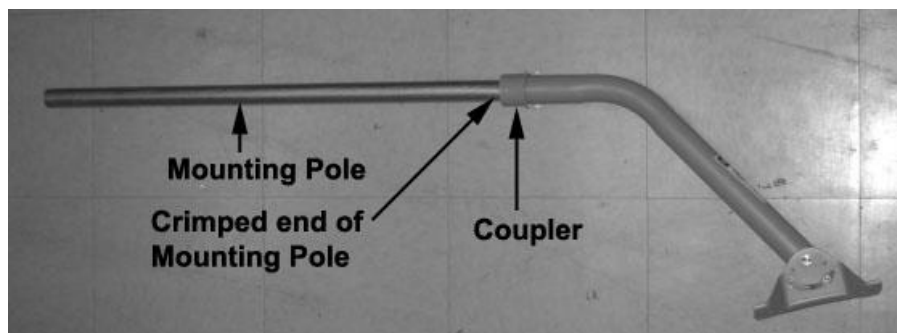

Figure 4
Step 2. Place the crimped end (tapered end) of the mounting pole inside the other end of the coupler, as shown in Figure 4.